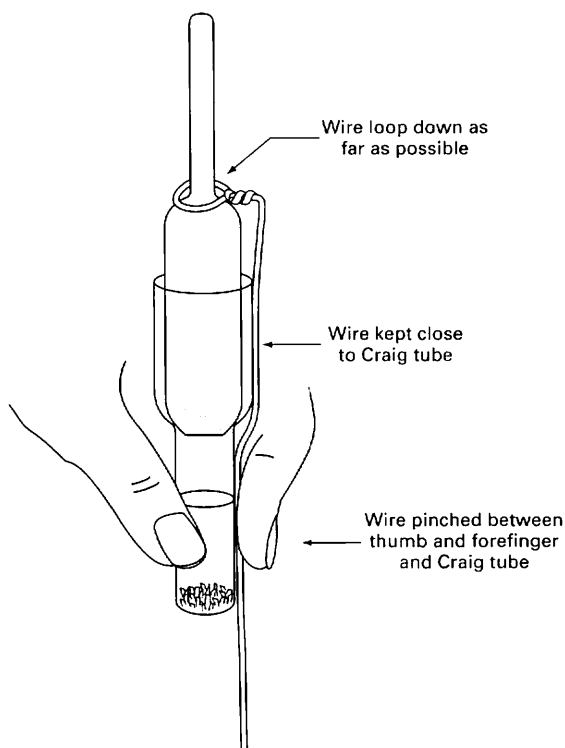

Fig. 70 Wiring the Craig tube.
6. Hold the wire gently between your thumb (or forefinger) and the glass tube bottom. Grip the hanging wire and gently pull it downward so that the Craig tube top is pulled into the bottom (Fig. 70). Too much force here and you could snap the stem. Watch it.